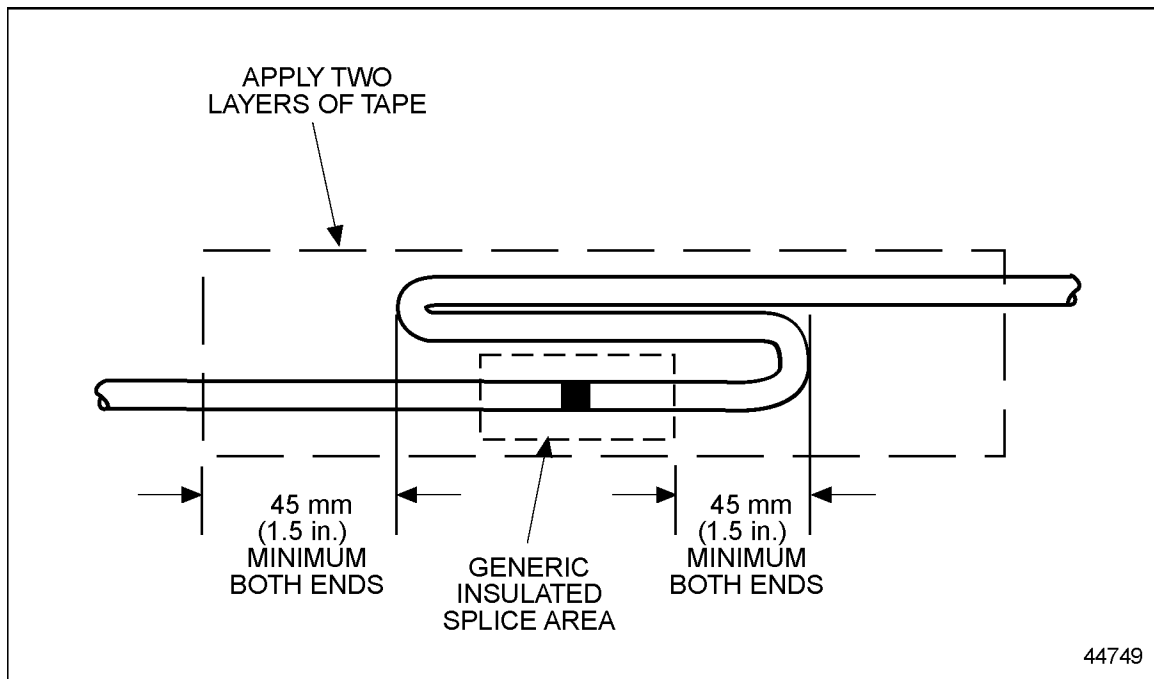

Figure 2-24 Recommended Strain Relief of Spliced Joint
5. Loop the lead back over the spliced joint and tape. See Figure 2-24.
8. Loop the lead back over the spliced joint and tape. See Figure 2-24.
9. Loop the lead back over the spliced joint and tape. See Figure 2-24.